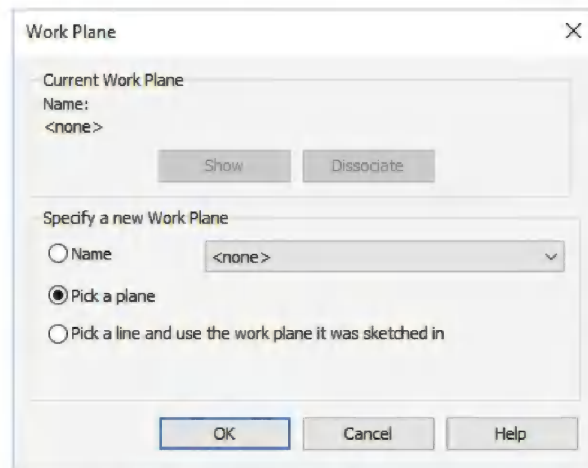

FIGURE 8-6.15 Work Plane dialog; select Pick a Plane
41. Select **Pick a Plane** and click **OK** (Figure 8-6.15).